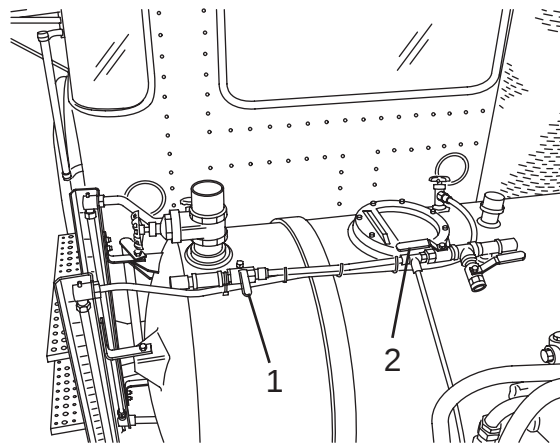

Figure 77
1. Open the air valve (Figure 77, Items 1 or 2) of the tank compartment to be pressurized. If equipped with an optional split tank, each compartment will have its own valve.